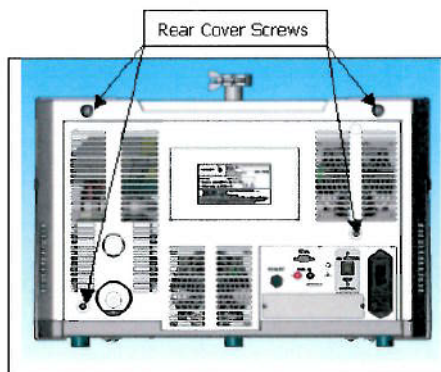

Figure 1-4 Location of Rear Cover Screws
2. Use the hex wrench provided to remove the rear cover by removing the four screws (Figure 1-4).